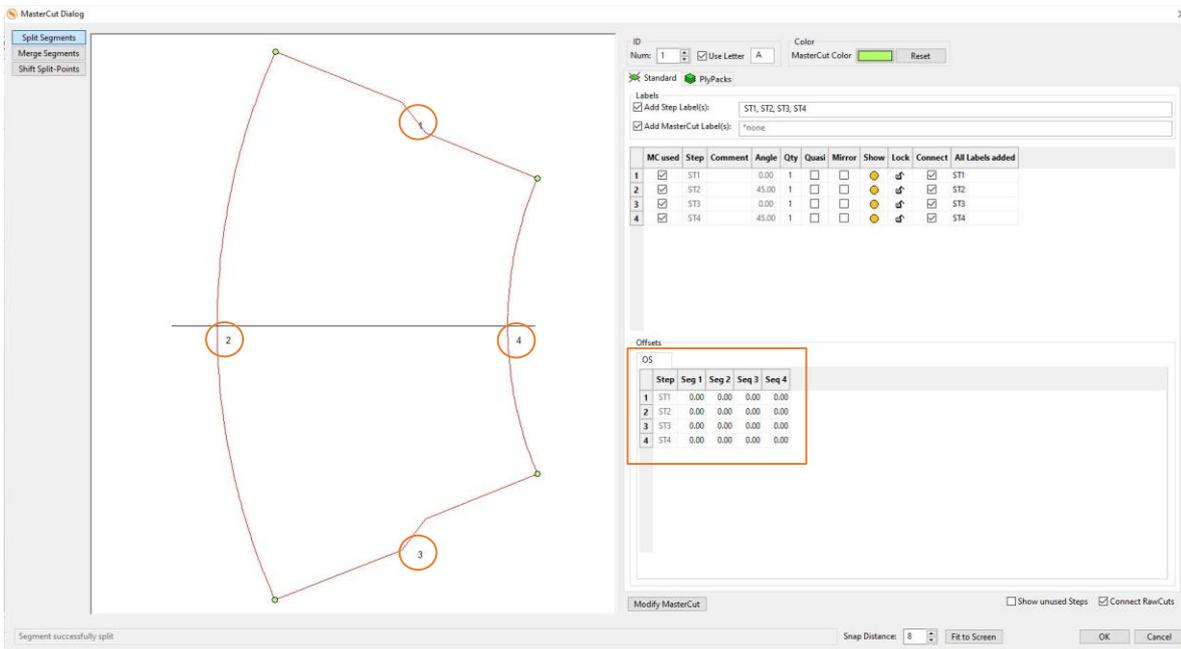

Figure 110
- Next select split points **SP1**, **SP2**, **SP3** and **SP4** one after each other to receive four segments. Try to follow the order given here so that your numbering of the segments in the further steps also corresponds to that in this User Guide (Figure 110).